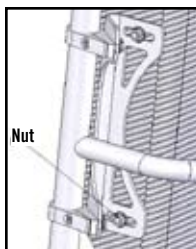

Figure 3
**Step 4:** If the width of the JetStream Pro needs to be adjusted to fit between the backrest clamps, loosen the nuts using a 10mm wrench\* and adjust accordingly as shown in Figure 3.